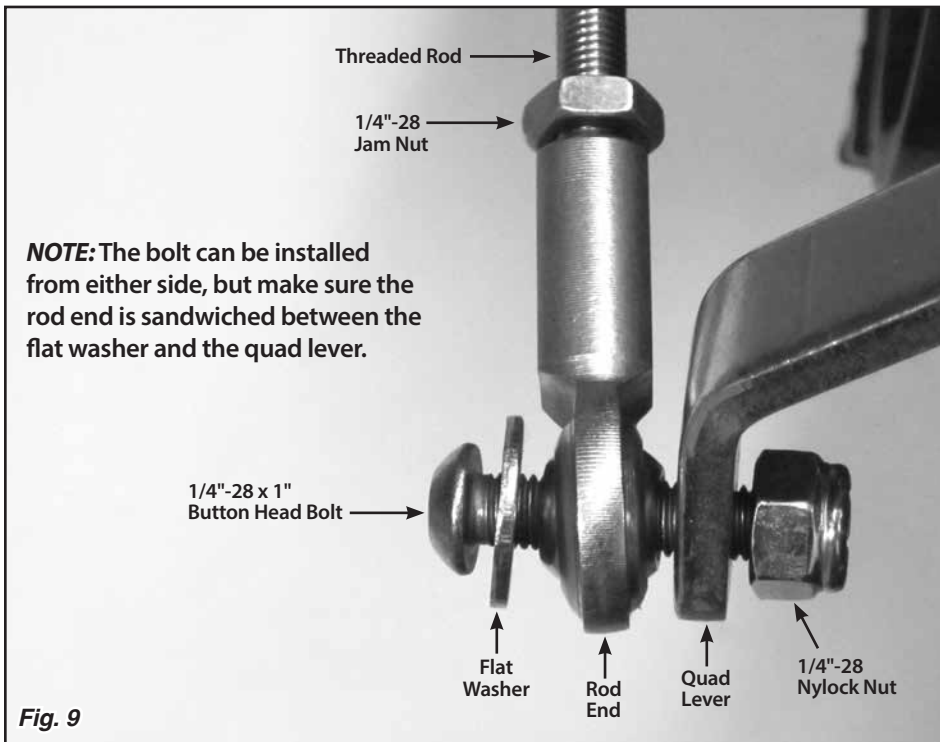
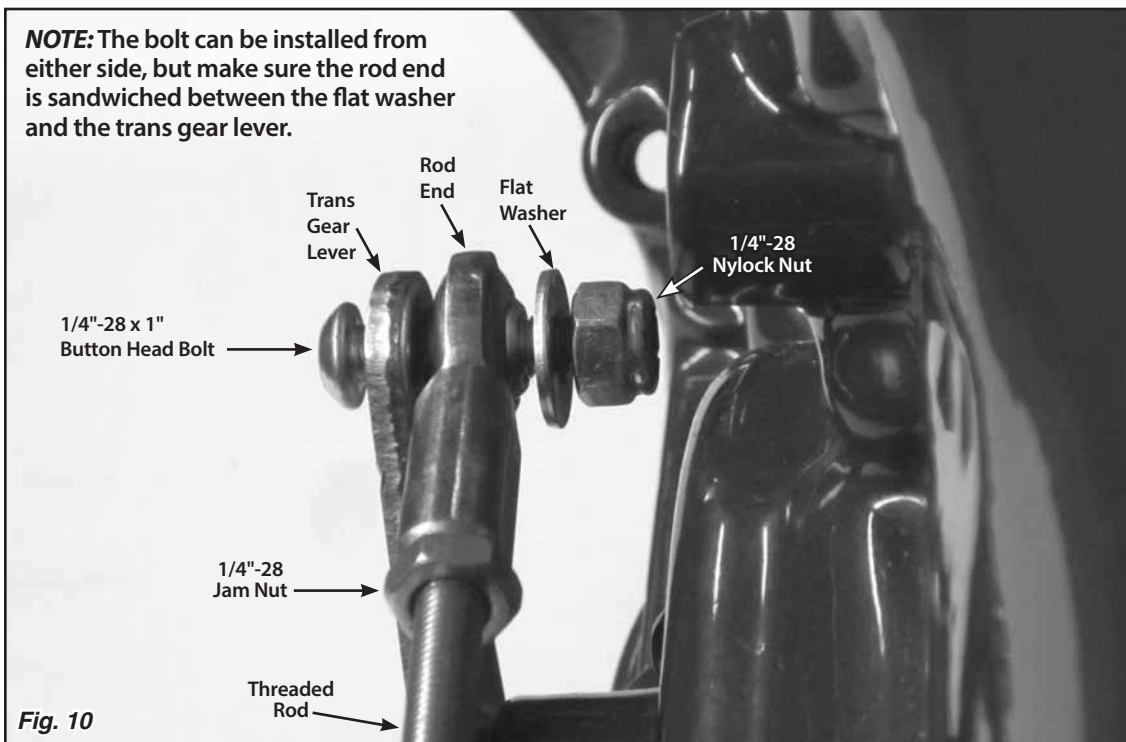

Fig. 9
Fig. 10
Step 14: Verify that both 1/4"-28 jam nuts are on the threaded rod, and install a rod end onto each end of the threaded rod. Attach the threaded rod assembly to the *inside* of the trans gear lever and to the *outside* of the quad lever using the 1/4"-28 x 1" button head bolts, flat washers, and nylock nuts as shown in Fig. 9 and Fig. 10. The button head bolts can be installed from either direction, but make sure the rod end is sandwiched between the flat washer and the trans gear lever or quad lever.